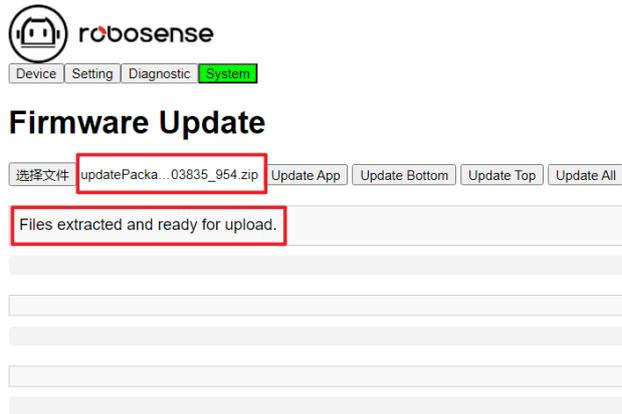

Figure 22 The Page is Displayed After the Upgrade File is Selected
- 3) At this time, the file name of the firmware to be upgraded will be displayed on the web interface. Select the corresponding upgrade button to upgrade the corresponding firmware, as shown in Figure 22.